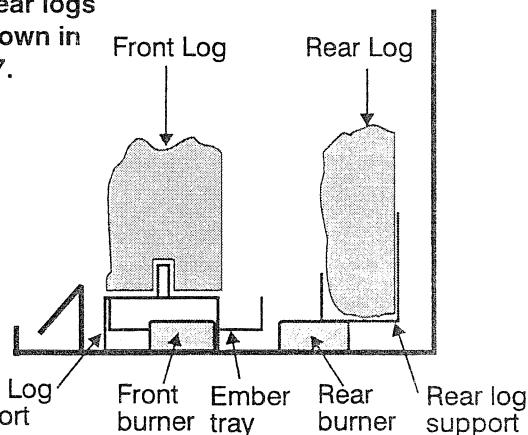

Fig. 15: Side View
- Carefully place the rear log (with **no** cutouts) so it rests on the rear supports (with the flat part of the log to the back) and then push the log flush against the back. Center the log, relative to the rear burner. The knot in the log should sit just to the right of center. See Fig. 15 & 16.
- Place the front log (with the cutouts) on the two front log supports, the log must be even with the front edge of the supports. See Fig. 15 & 16.